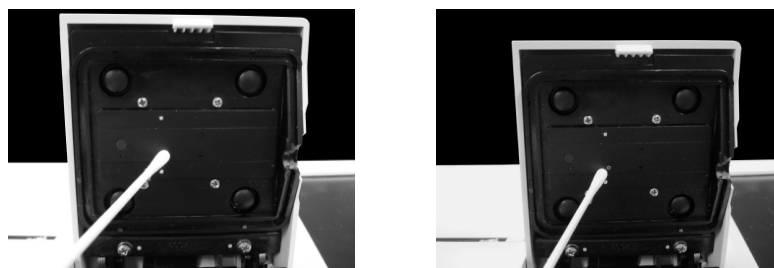

Fig. 8-47 Clean Optical Channels
2. Clean the optical channels using a cotton swab or lint-free cloth dipped in alcohol or ammonia-based cleaner (Fig. 8-47).